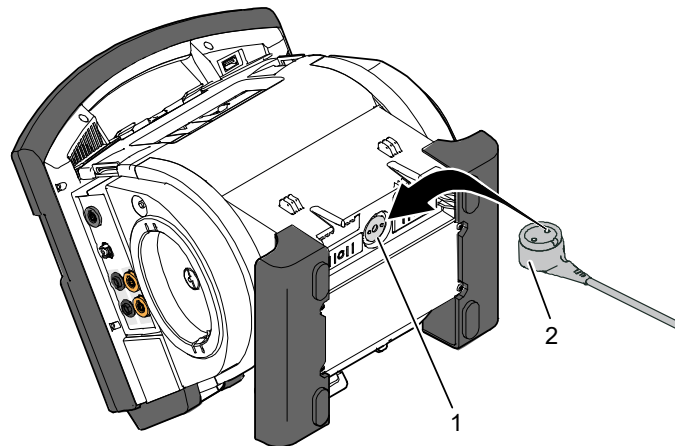

Fig. 3-23 Compact device, power supply (illustration may differ)
The connection (item 1, Fig. 3-23) on the defibrillator/pacer is used for power supply of